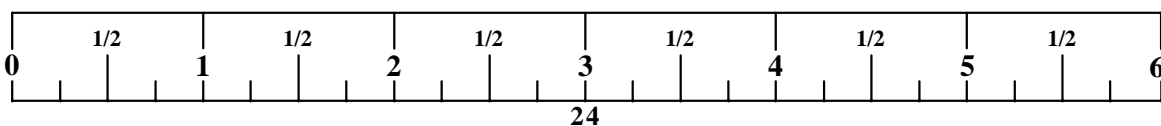

**FIGURE 29**
- **SECURELY** assemble the TOP SHROUD BRACKET (70) to the RIGHT and LEFT UPRIGHT PLATES (14 & 15) using two 3/8 X 2-1/2" BOLTS (74) and two 3/8" LOCK NUTS (75) as shown in FIGURE 29.